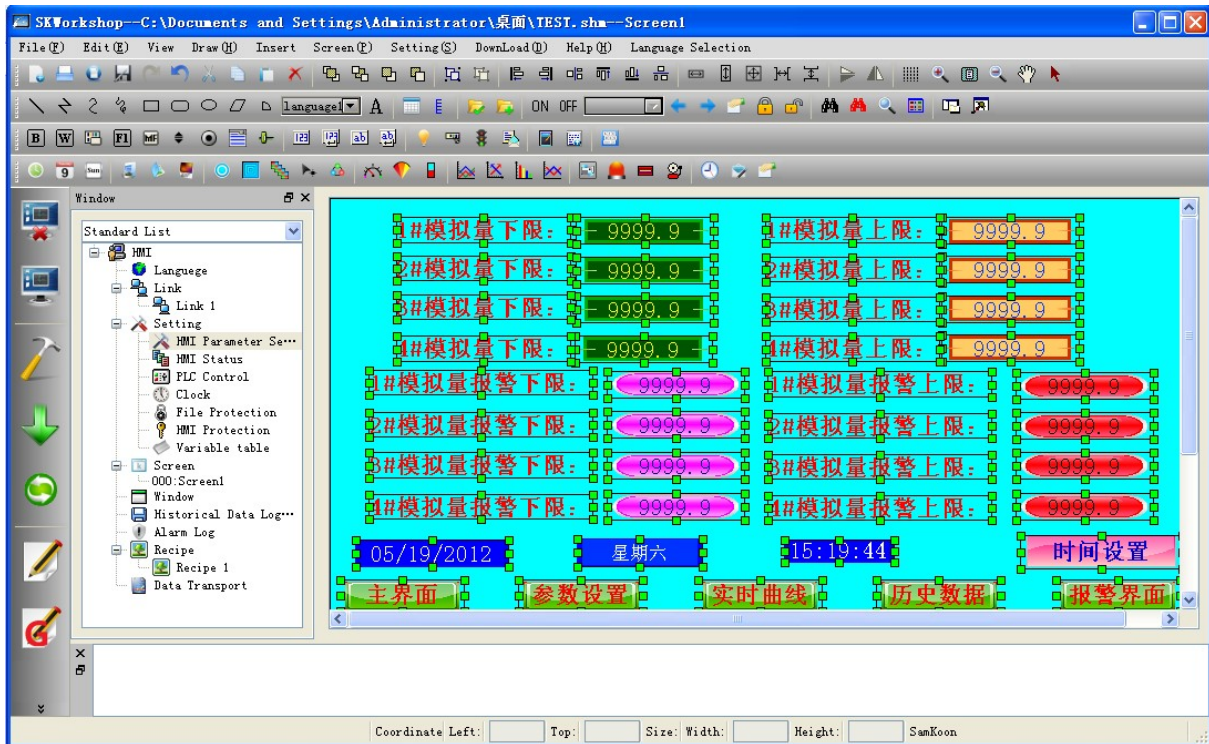

Figure 6-7 Edited project
- ✓ The creation method of other controls is same to previous introduction. Therefore, detailed description is not given again. After setting attribute of all controls, click “Save” to save the project. Then, select “Off-line Simulation” in menu “Download” of menu bar, as shown in figure 6-7.